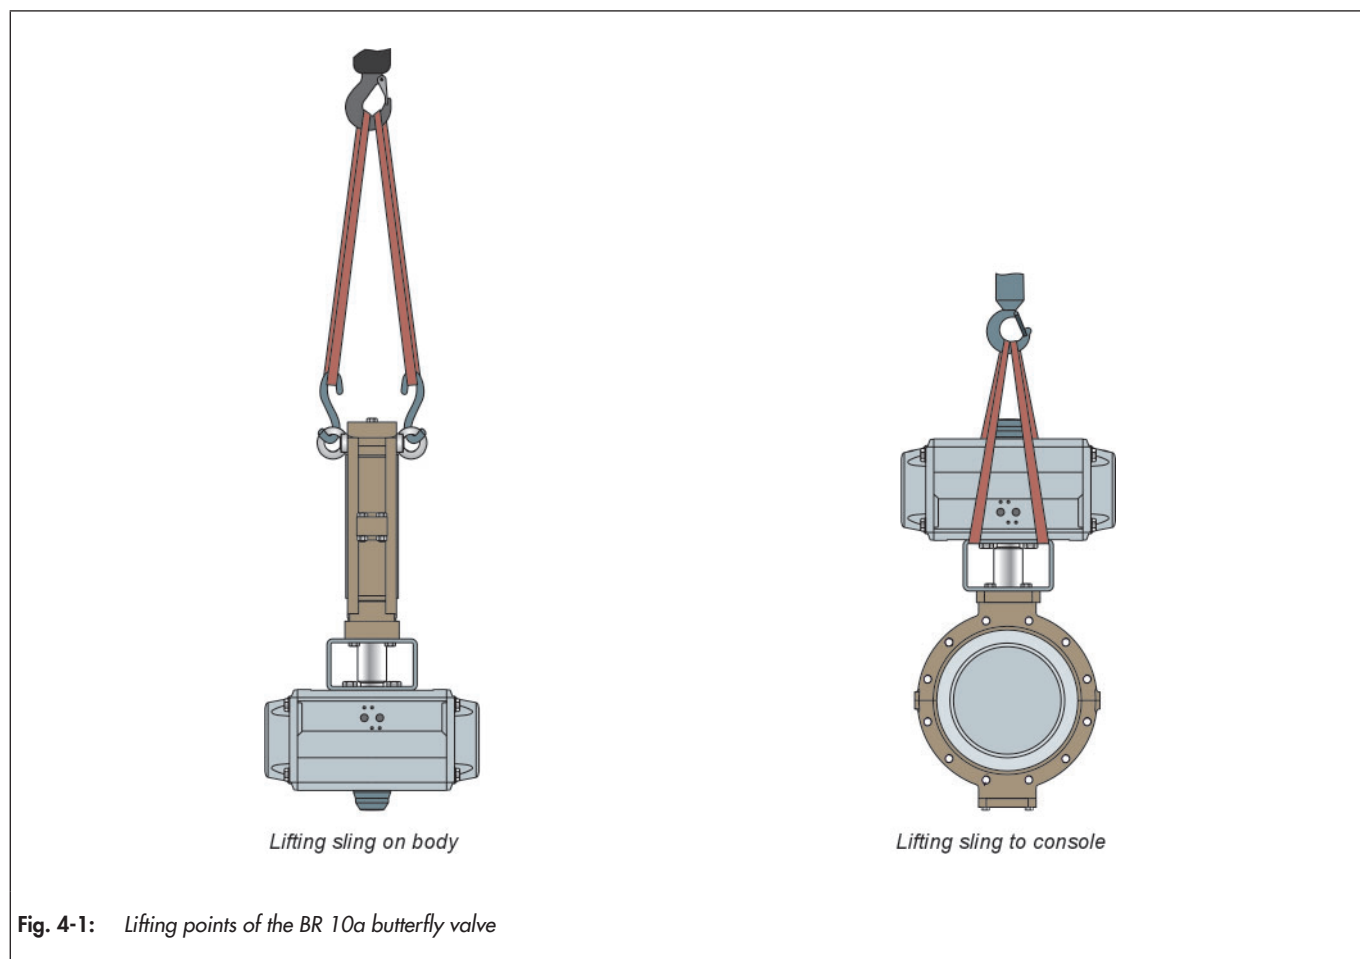

Fig. 4-1: Lifting points of the BR 10a butterfly valve
- ⇒ Use a hook with a safety clamp as the suspension element so that the sling cannot slip off the hook during lifting and transport, see Fig. 4-1.
- ⇒ Fasten a lifting sling to each suspension element (e.g. hook) of the crane or forklift, see Fig. 4-1.
- ⇒ Fasten a lifting sling to the bracket and the suspension element (e.g. hook) of the crane or forklift, see Fig. 4-1. When doing so, ensure the safety, bearing capacity and length of the lifting slings.